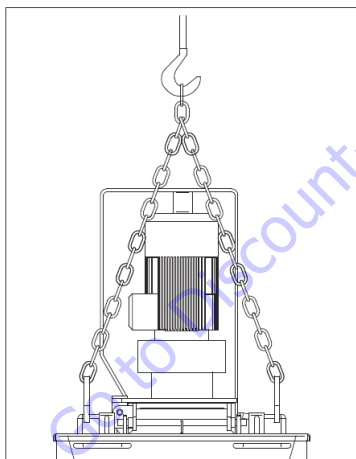

FIG.3
To lift the machine, use the specific attachment rings (fig.3).
**! - Caution! Never use points other than as specified in figure 3 to lift the machine and in particular do not hook up lifting equipment to the gearmotor guard.**